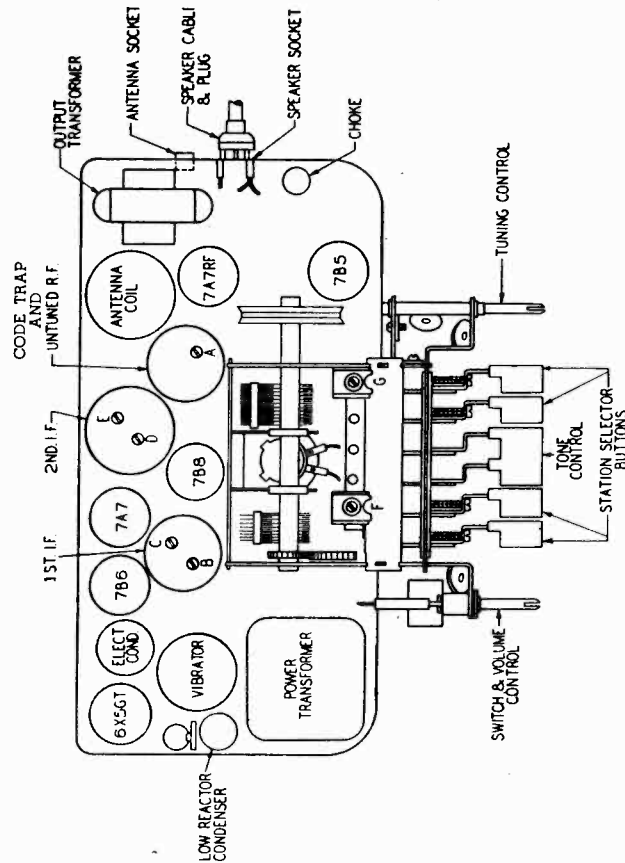

Fig. 3.
I.F.: The tuning condenser is fully meshed (540 K.C.). The signal generator is set at 455 K.C. and fed through the special Zenith antenna dummy to the receiver. The wave trap adjustment screw A, (see Fig. 3) is adjusted for maximum response. The adjusting screws B, C, D and E (see Fig. 3) are then adjusted in order for maximum response on the output meter. The wave trap A is then adjusted for minimum response.
R.F.: The tuning control is rotated until the condenser plates are completely out of mesh (1600 K.C.). Set the signal generator to 1600 K.C. Adjust the 1600 K.C. osc. trimmer F shown in Fig. 3 for maximum response.
Set the signal generator to 1400 K.C. Rotate the tuning control until the signal is heard and adjust the 1400 antenna trimmer G (See Fig. 3) for maximum response.